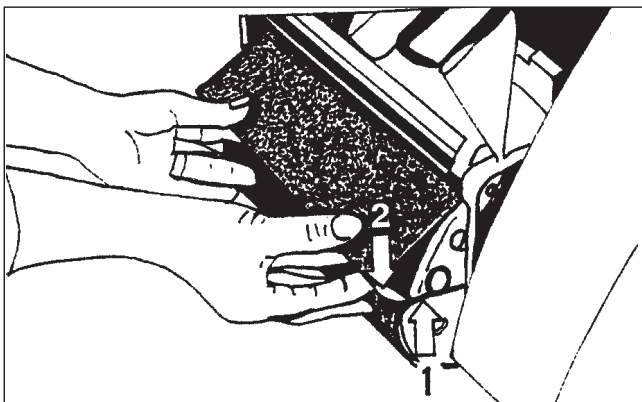

Figure 3
9. Put one end of the abrasive against the sanding drum slot (1). See figure 3.
10. Turn the drum one revolution. Put the other end of the abrasive in the drum slot (2). See figure 3.